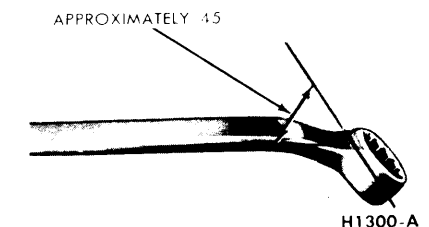

FIG. 4—Brake Bleeder Wrench
1. Position a bent $\frac{3}{8}$ -inch box wrench on the bleeder fitting on the right rear brake wheel cylinder (Fig. 4). Attach a rubber drain tube to the bleeder fitting. **The end of the tube should fit snugly around the bleeder fitting.**
3. Position a $\frac{3}{8}$ -inch box wrench on the bleeder fitting on the right rear brake wheel cylinder (Fig. 4). Attach a rubber drain tube to the bleeder fitting. **The end of the tube should fit snugly around the bleeder fitting.**